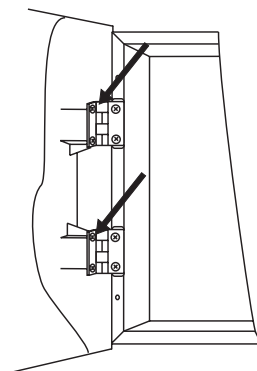

Figure 3
- Remove the front cover as first disconnect the flat-cable for panel indication. After that unscrew the hinge bolts on the side of the front panel - Figure 3. *(Note: You can unscrew and the hinge bolts on the side of the metal box. The special here is the presence of two plastic pads situated under the hinges. The pads have to be returned back under the hinges at closing the front cover.)*